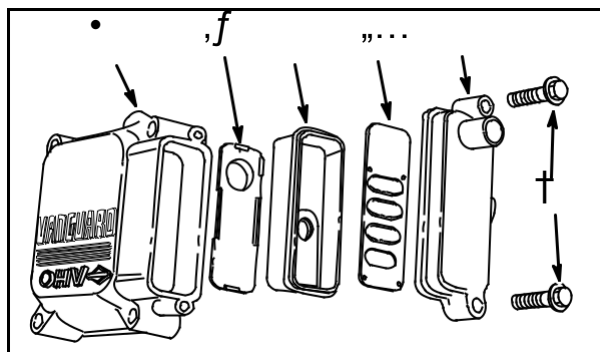

Fig. 15
Remove two screws (6) and breather cover (5), **Fig. 15**.